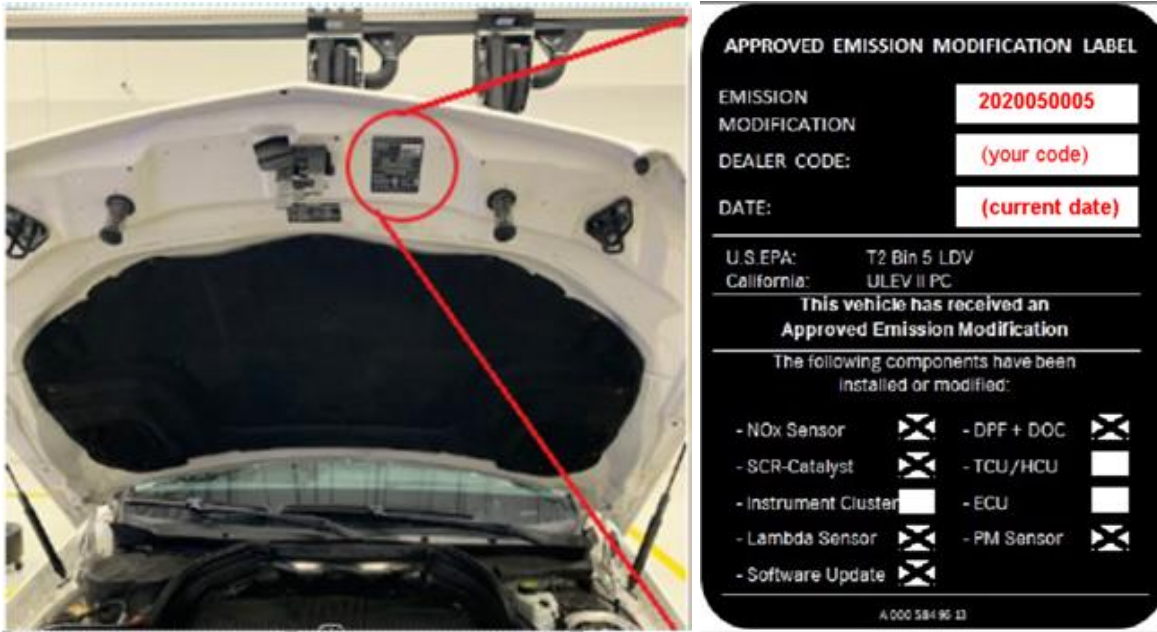

Figure 12
15. Clean the bonding surface of the hood and attach the adhesive label (Figure 12).